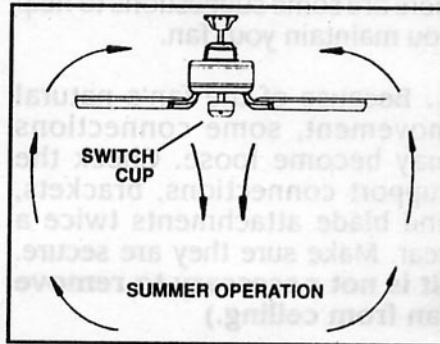

FIG. 17
**Warm weather** – (Counter Clockwise) A downward air flow creates a cooling effect as shown in Figure 17. This allows you to set your air conditioner on a warmer setting without affecting your comfort.